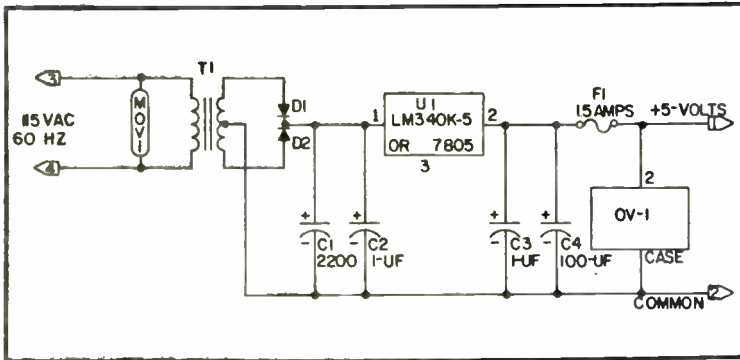

Fig. 10-50. Low-voltage regulated DC supply.
regulated to a high degree. Figure 10-50 shows the basic low-current power supply, and this circuit may be used for any potential between 5 volts and 24 volts DC. The particular example shown is for 5 volts at 1 ampere.
There are two general lines of 750 mA to 1A regulators available in both positive and negative versions. The 7000 series and the LM300 series. The 78xx and LM340 are positive output voltage regulators, while the 7900 and LM320 are negative output devices. Note that the pinouts for the positive regulators are the same as in Fig. 10-50, but in the negative output regulators, pins 2 and 3 are reversed, or the output is on pin No. 3 and ground is pin No. 2. We can read the voltage rating and infer the current rating from the part number. The LM340T-12, for example, is a 12-volt (-12), plastic package (T) regulator. We can infer from the package
The circuit in Fig. 10-50 can be used for any of these three-terminal IC regulators. It is, however, necessary to make certain circuit value changes for other than 5-volt operation. Input capacitor C1 should have a value of 2000  $\mu\text{F}$ /ampere, while output capacitor C4 should have a value of 100  $\mu\text{F}$ /ampere. If one of the higher current devices are used, then you must raise the value of these capacitors accordingly. If the 100 mA regulator is used, however, do not reduce C1 to less than 500  $\mu\text{F}$ .